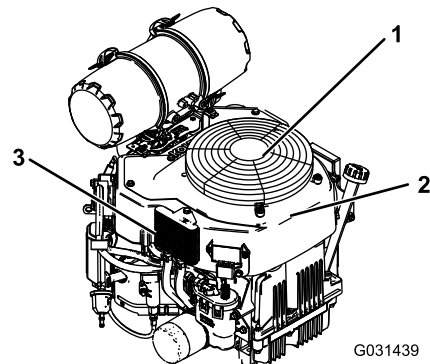

Figure 68
3. Remove the air-intake screen and fan housing (Figure 68).
5. Install the air-intake screen and the fan housing (Figure 68).